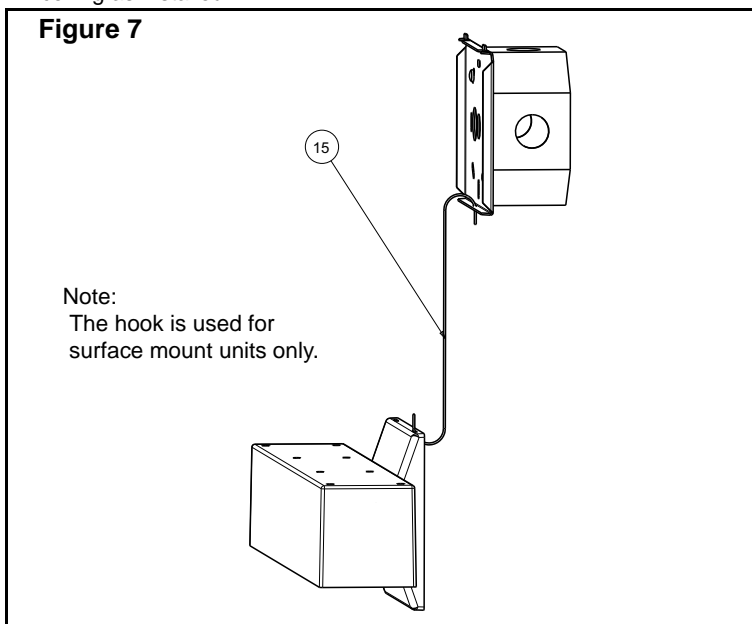

Figure 7
| 7. Canopy | 15. Hook (refer to fig.7) |
6. Using the hook provided, hang the canopy/back box assembly to the spider plate (figure 7).